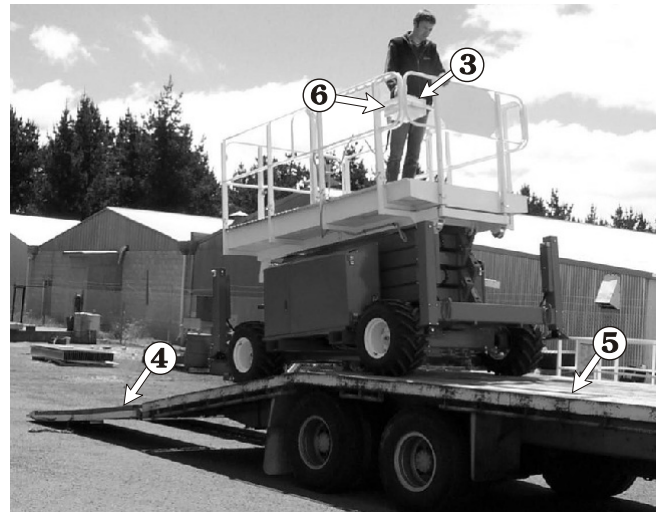

Figure 10.4
6. Use the joystick controller ❸ to slowly drive the RT straight onto the ramp ❹ and trailer ❺ (see Figure 10.4).
7. When the RT is in place on the trailer, push the **Emergency Stop** switch ❻ (see Figure 10.4) in (OFF) at the platform control box.